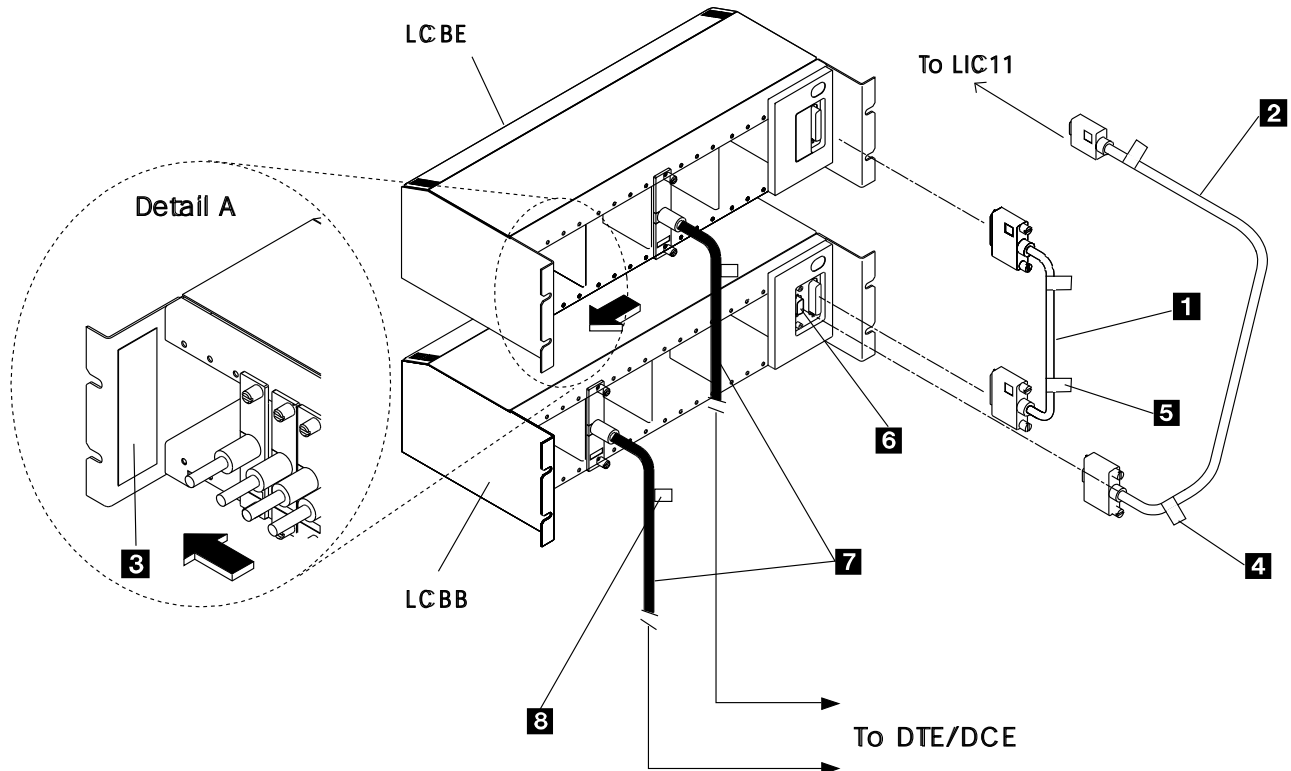

Figure 8-7. LCBB and LCBE Connection
2. ____ Start **installing** the LCBs **from the bottom** of the rack. The LCBE is always installed on top of its associated LCBB (see Figure 8-7).
5. ____ **Stick** the label on the LCB (see detail A **3** in Figure 8-7).
6. ____ If you have installed one LCBB and one LCBE, **install** cable **1** (PN 58G5700) between the LCBB and the LCBE. This cable is part of the LCBE shipping group (see cable **1** in Figure 8-7 on page 8-9).
Install the LIC11-to-LCBB cables (see cable **2** in Figure 8-7 on page 8-9) as follows: